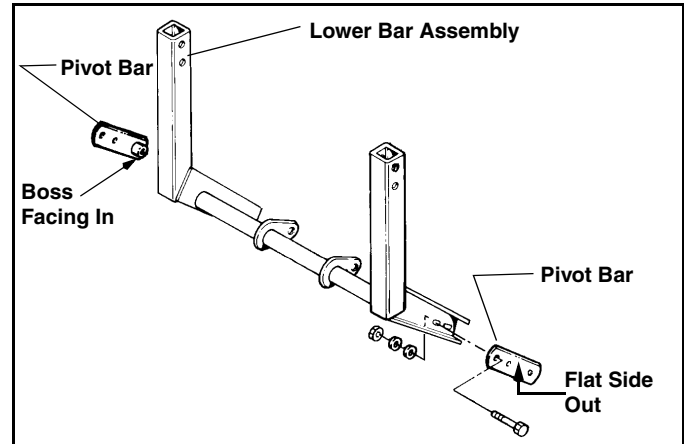

Figure 1
3. Loosely assemble Pivot Bar to Lower Bar Assembly outer arms. Use, two (2) 3/8" x 1-1/4" Capscrew (#98009034), with two (2) 3/8" Washers on each Capscrew and Nylock Nuts provided per Pivot Bar. (Figure 1)
NOTE: Raised Boss on Pivot Bar must face to INSIDE of assembly. (Figure 1)